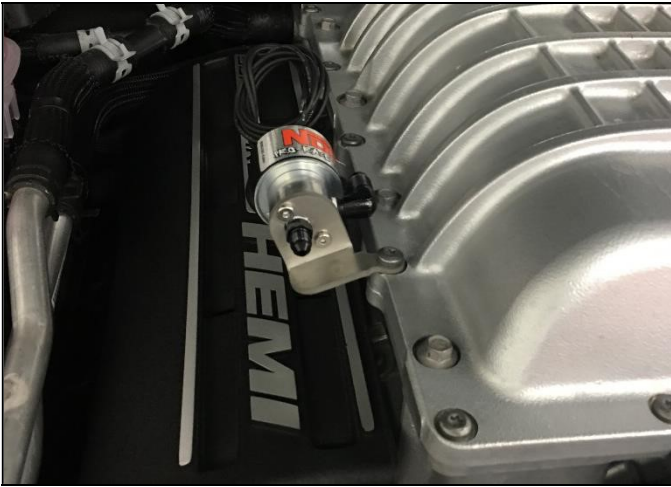

Figure 9 – Passenger's Side Fuel Solenoid
7. To install the solenoid brackets, you must remove a couple T30 bolts from the supercharger cover. The second from the front T30 bolt is to be removed from the passenger's side, and the third from the front T30 bolt is to be removed from the driver's side. Place the included spacer and then solenoid bracket and reinstall the T30 bolts. Torque the bolts to 106 in. lbs. (~8.8 ft. lbs). See **Figures 9 & 10** for position and bracket orientation.